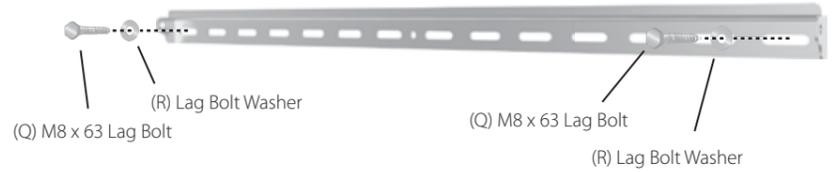

Fig. 1 - Attach the wall plate to the wall (drywall).
5. With the help of another person, replace the wall plate and fix it to the wall using the Lag Bolts (Q) and Lag Bolt Washers (R) provided (Fig. 1).